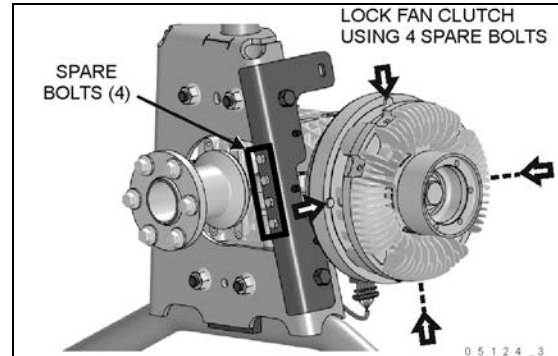

FIGURE 40: MECHANICAL LOCKING
3. Unscrew and remove the 4 spare M6x12 hex bolts screwed to the angle on the fan gearbox mounting support (FIGURE 40).